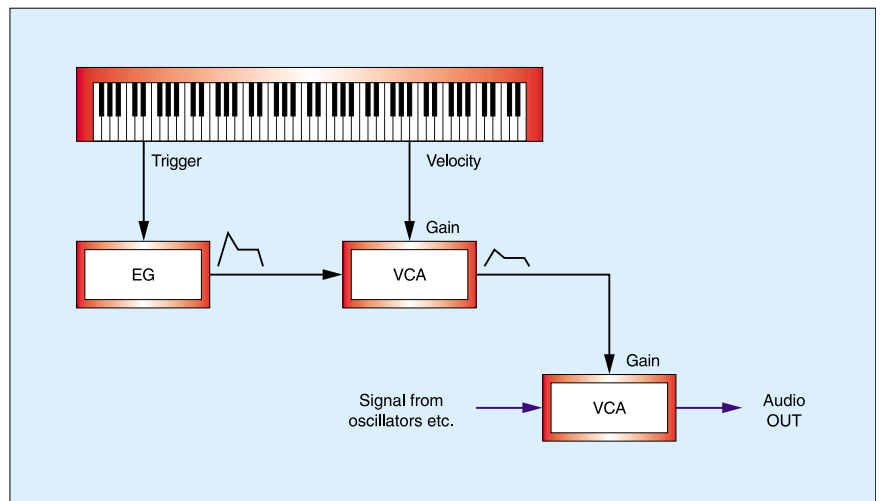
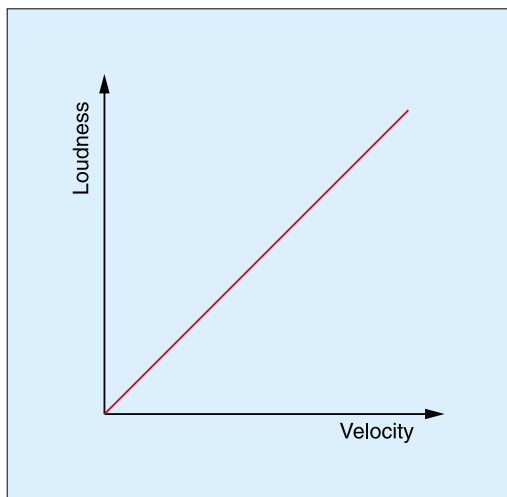
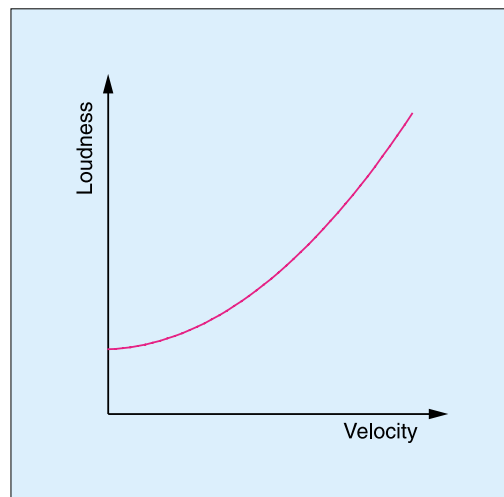

Figure 5: Using velocity to control the loudness of a sound.
Figure 6: As the velocity increases, the sound gets louder — here, a linear relationship is shown.
Figure 7: A non-linear relationship between velocity and loudness.
curve of Figure 6 with the non-linear one shown in Figure 7 (right).
Extending this idea still further, there's no reason why the parameter on the 'Y' axis of Figures 6 and 7 should be limited to Loudness. If we change this to 'amount', it could be the filter cutoff frequency, or the gain of a VCA controlling the LFO amount applied to the pitch of an oscillator... or indeed anything else in the synth. And therein lies the secret of 'dynamics'. By defining a suitable response to key velocity, and then directing
▶ audio signal path (as shown in Figure 5 on the previous page) so that there is a proportional relationship between velocity and Gain, then the greater the velocity, the greater the Gain, and the louder the resultant note (see Figure 6 above). This is broadly consistent with the physical mechanism shown in Figure 3(a).
If you set the Dynamics to '1', a controlled signal responds in a way similar to that shown in Figure 7. At low velocities, the CV (or its digital equivalent) is still applied with an appreciable amount. Then, as you play with greater and greater velocity, the amount increases gradually. As you approach maximum velocity, the curve slopes sharply upwards until the CV is applied with 100 percent of its maximum amplitude.